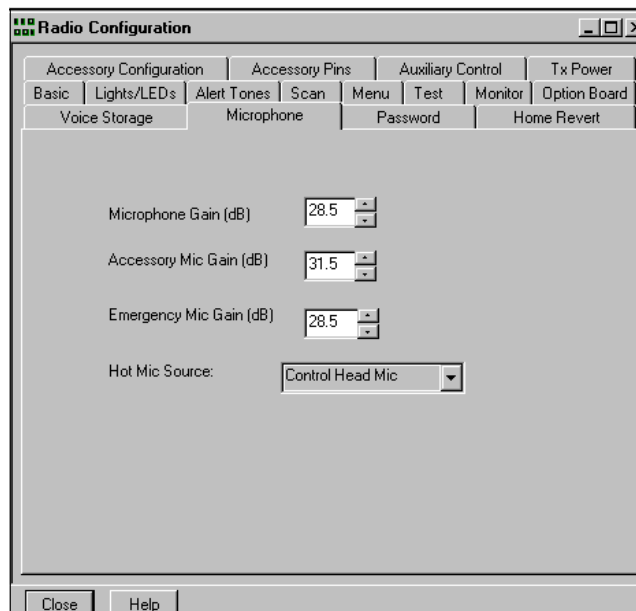

Figure 11-7. Radio Configuration, Microphone, Transmit Radio
- Click on the “Accessory Mic Gain (dB)” up arrow button to increase the gain to “31.5”. Your screen should appear similar Figure 11-7.